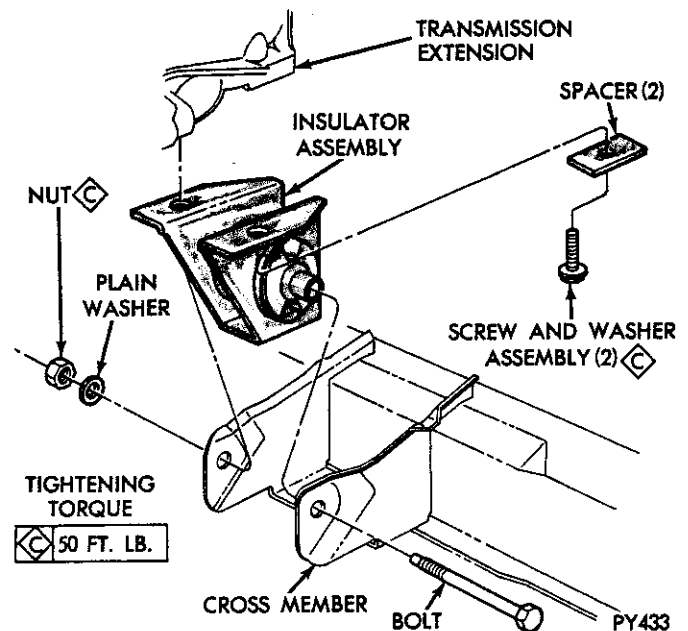

Fig. 2—Engine Rear Support—Challenger
(1) Install insulator to crossmember.
(2) Install crossmember, tightening attaching bolts to specifications.
(3) Install extension housing mounting bolts tightening to specifications (Fig. 2).
(4) Remove transmission jack and lower vehicle.